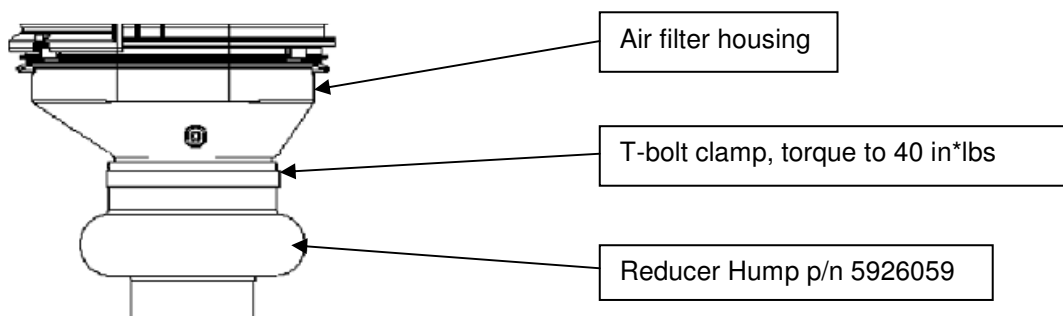

Figure 14: Reducer Hump Installation
23. Use a lint-free damp cloth to clean the reducer hump removed in Step 14. Examine to see if there is any damage or excess wear to the reducer hump. If not use as is, if there is damage replace with a new hump p/n 5926059. Install the hump and T-bolt clamp, completely over the bottom outlet flange of the housing. Leave clamp loose. The clamp should be approximately .5" and parallel with the edge of the hump and torque T-bolt clamp to 40 in*lbs. See Figure 14.